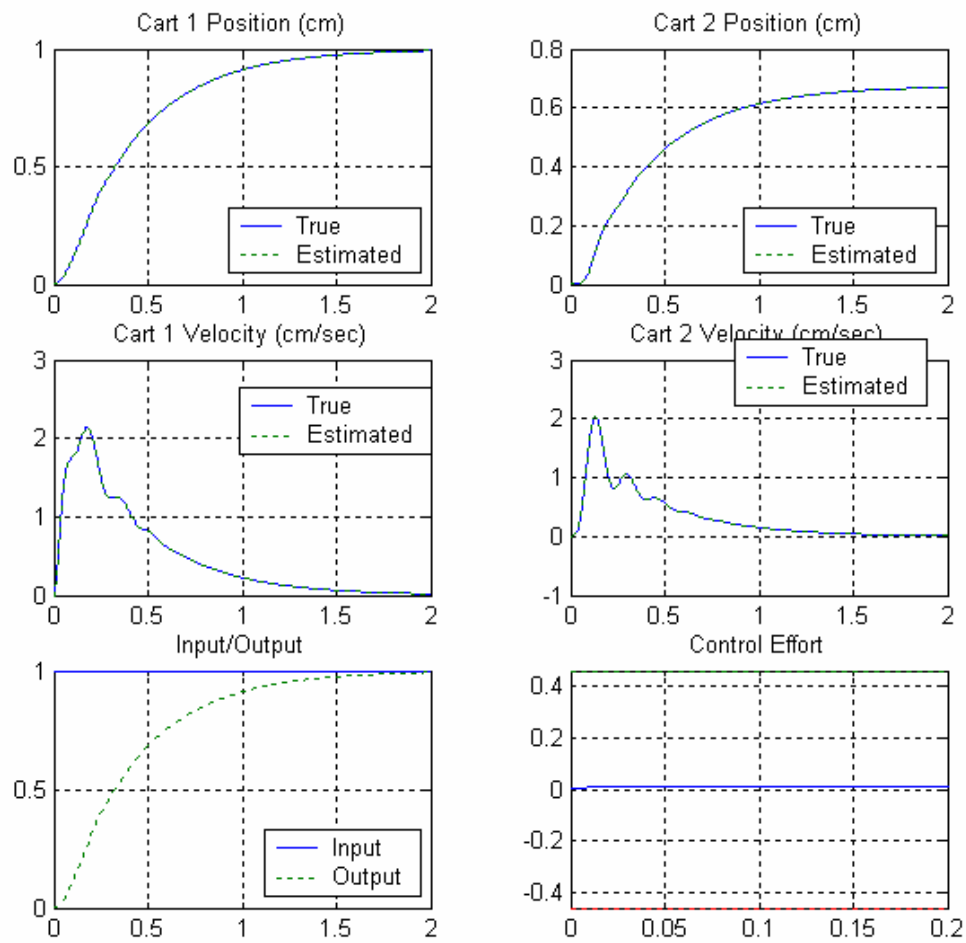

Figure 7. Results for 4i
i) Implement (Simulink/Matlab) a state observer with state variable feedback configuration that forces the system to be a type one system for the two degree of freedom system with the state model on the web. Control the position of the first cart. Assume the positions of both carts are available for the observer. Utilize an lqr controller, the last Q penalty value is a penalty on the new (augmented) state. Use the command $k = lqr([0.1 \ 0 \ 0.1 \ 0 \ 1], 1)$. To determine the closed loop poles type $p = eig(A-B*K)$. Set the observer poles equal to 2.5 times the state feedback poles ($2.5*p$). Set all initial states (observer, plant, and augmented state) to zero. You should get results similar to those displayed in Figure 7. Turn in your plot and Matlab/Simulink code.